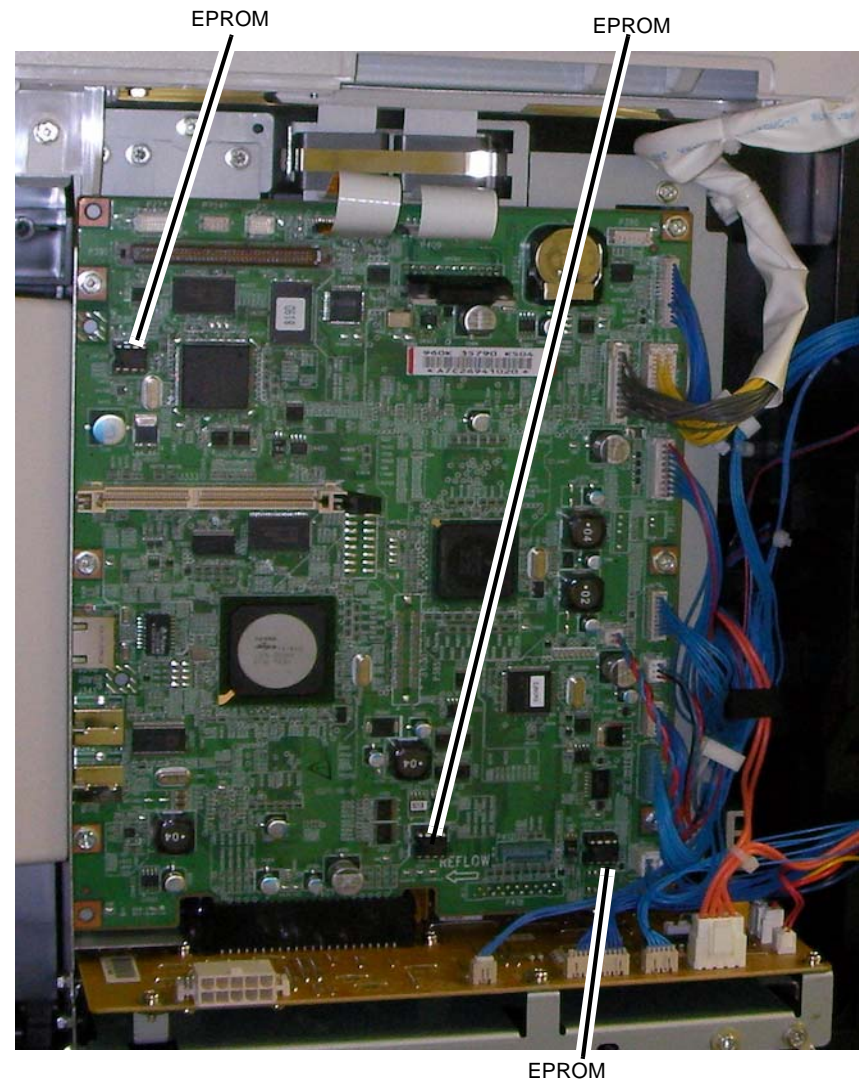

Figure 5 Transferring the EEPROMs
1. When replacing the SLCC PWB, transfer the NVM EEPROMs (3) from the old PWB to the new one (Figure 5).